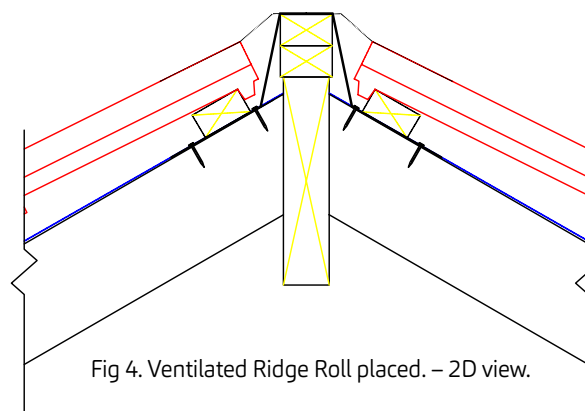

Fig 4. Ventilated Ridge Roll placed. - 2D view.
3. The ventilated ridge roll is then placed on the ridge. The two corrugated side flaps are designed to drape down over the top row of tiles on either side as the roll is opened out. The underside has a strip of self-adhesive butyl protected by an easy-release backing tape. Removing the tape the Ridge Roll is firmly applied by hand to the roof tiles. A ridge roll applicator is then used to securely fix in place. (Fig.4)